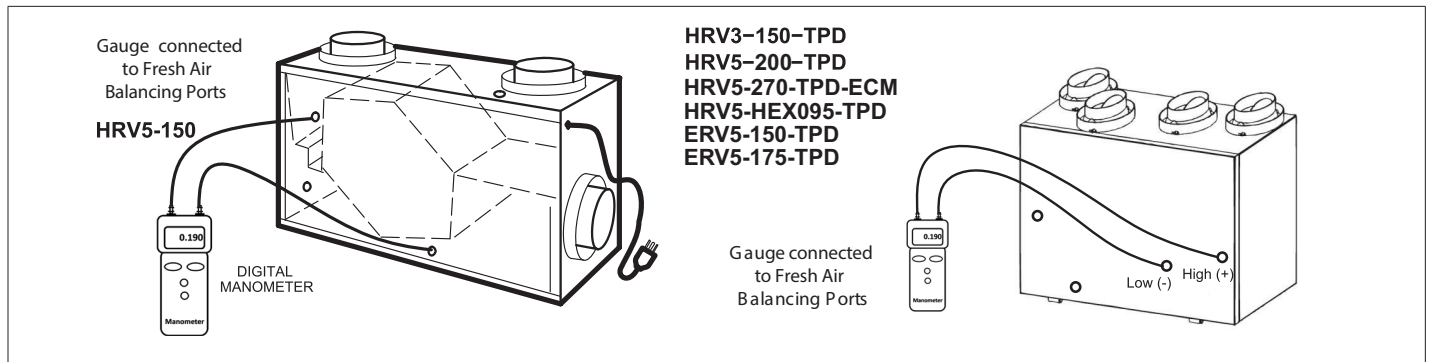

Figure 50. Door Balancing Ports - Fresh Air
6. Measure Fresh air insert the two rubber fittings from the gauge to the FRESH AIR Balancing Ports (see Figure 50 on page 40). Seal the STALE AIR Balancing Ports (upper right and lower left) with tape. Record your reading.